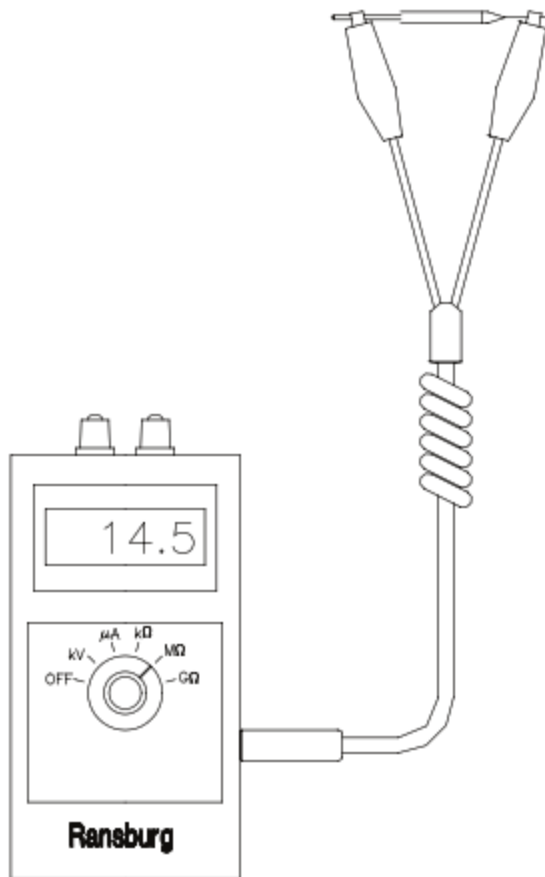

Figure 4: Measuring Electrode Resistance
3. For resistance checks, set the meter to $M\Omega$ scale (see Figure 4). Attach one alligator clip to the electrode wire of a 70430-XX screwed onto a needle shaft (or similar component). Attach the other lead to the shaft of the needle shaft (or other end of a similar component). The electrode reading should be approximately $14.5 M\Omega$ to $19 M\Omega$.